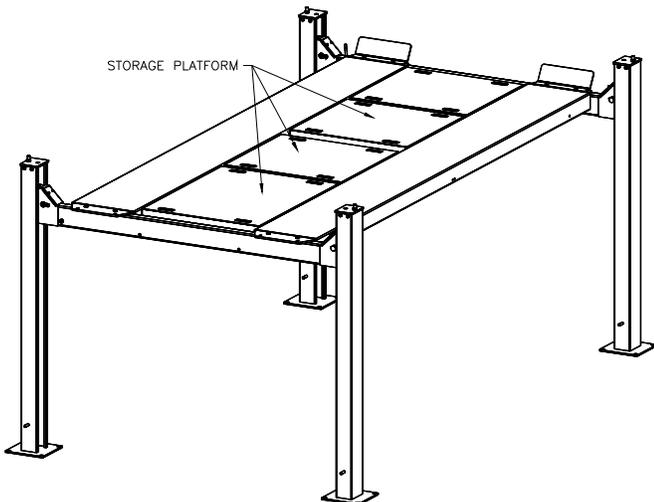

Fig 27 – Storage Platform
- 1) Up to four Storage Platforms can be placed between the runways, **Fig 27**.